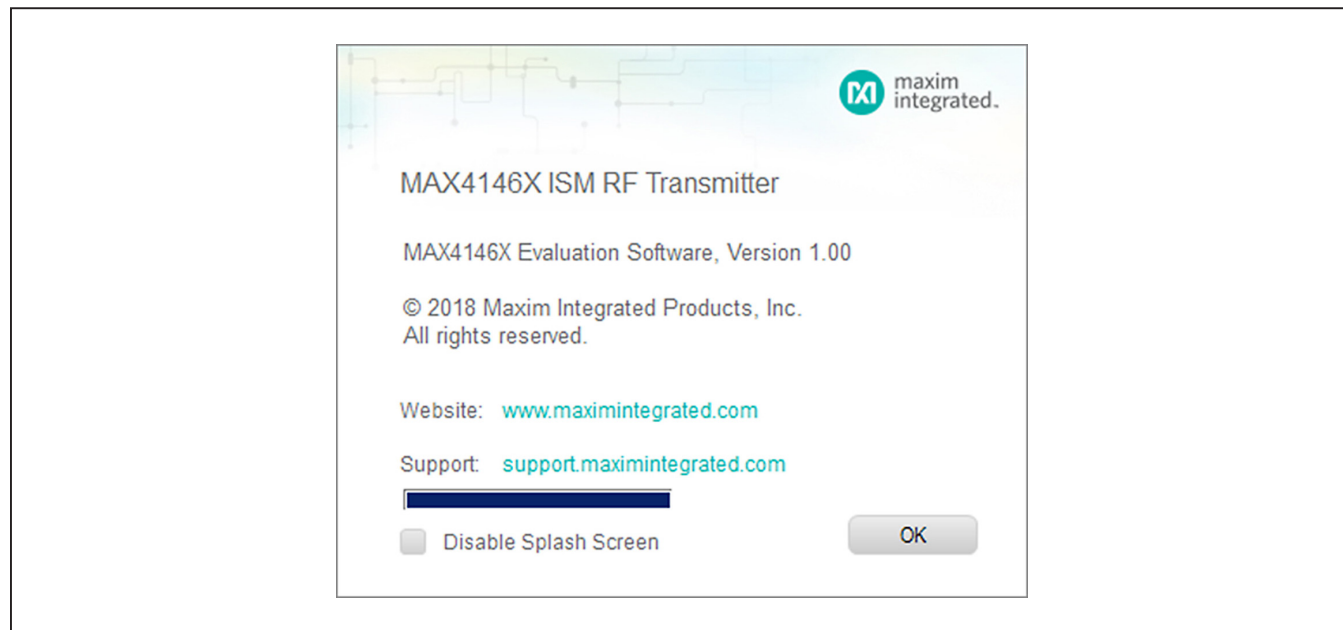

Figure 4. MAX4146x EV Kit GUI Splash Screen.
- a. A MAX4146x EV kit splash screen, as shown in Figure 4, will be displayed.